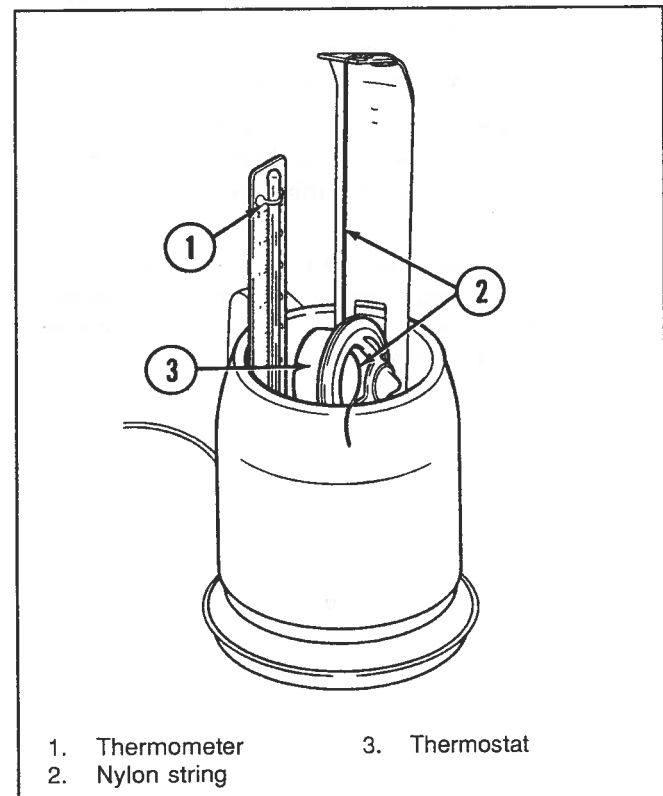

Figure 10-12. Thermostat Tester
4. Check opening and closing temperature of thermostat using a tester similar to the one shown in Figure 10-12. Proceed as follows: